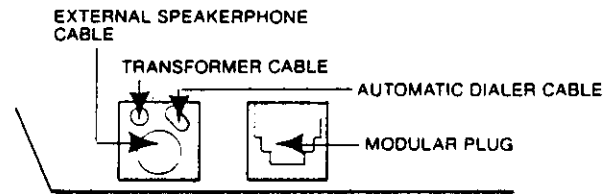

FIGURE 8 — REAR VIEW OF EKT EXIT PORTS BOTH EXTERNAL SPEAKERPHONE AND AUTOMATIC DIALER CONNECTED
4.2.4 Take the four wire replacement cable supplied with the ESIU, equipped with four spade-tip connectors on each end. From inside the EKT case feed the end of the cable, not equipped with the nylon eyelet, out of the exit port. See **Figure 8**.